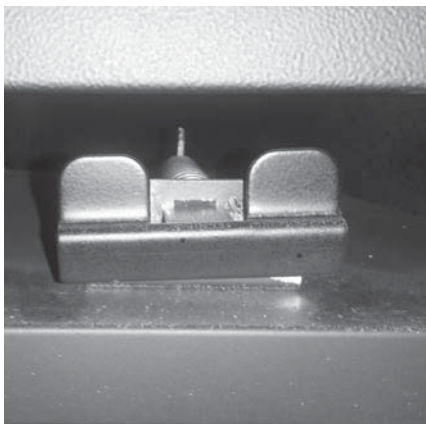

Figure 61 – Glass Frame Latch
2. Release the two (2) latches on the top of the fireplace by pulling forward and up. *Figure 61*